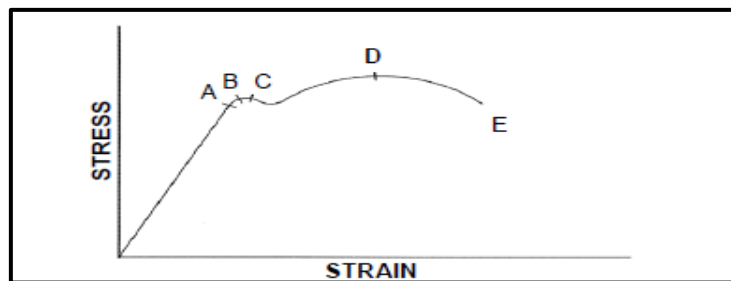

FIGURE 4.7
4.7 What does point 'B' denote in the stress/strain diagram in FIGURE 4.7?